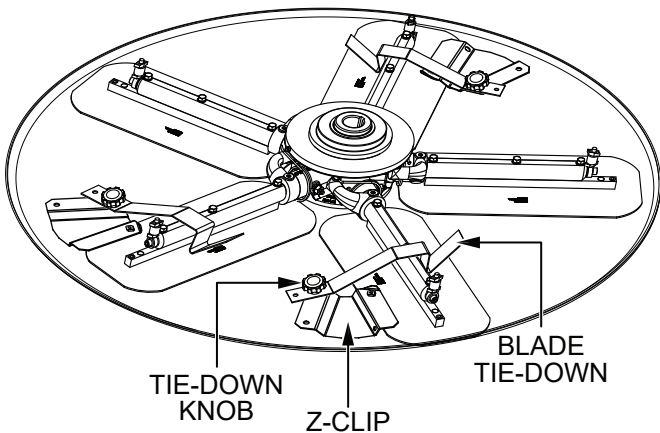

Figure 89. Float Pan Installation (Z-Clips)
4. Attach the blade tie-downs to the far side of the Z-clips using the tie-down knobs as shown in Figure 89.